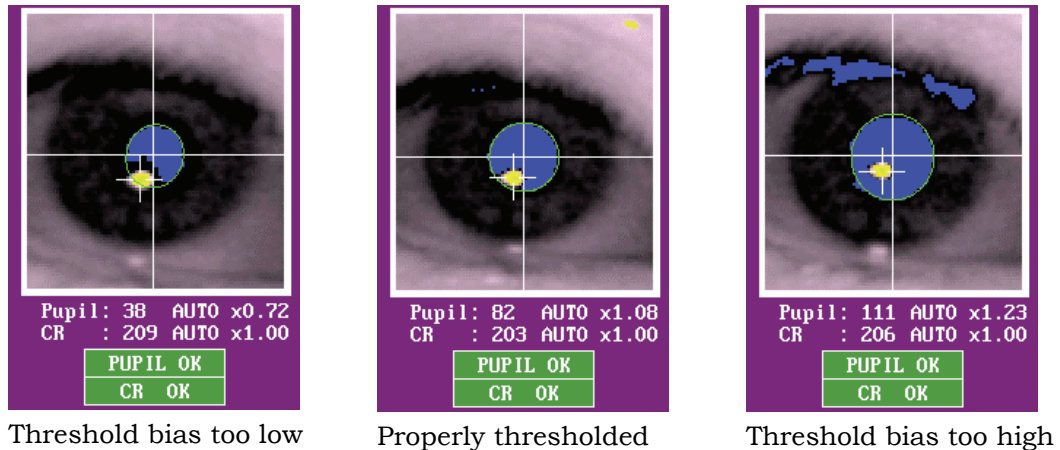

Figure 3-10. Pupil and CR Thresholds and Bias Values
- 14) In the zoomed camera image, the threshold values for pupil and corneal reflection are displayed under the camera image. Unlike other versions of the EyeLink 1000 eye tracker, these threshold values are automatically updated. The number beside the pupil threshold value is pupil bias – the extent to which the pupil threshold is modulated (see Figure 3-10). The user may adjust the bias using the pupil threshold adjustment buttons or with the UP and DOWN keys. Raising the bias increases pupil coverage (i.e., increasing the blue area) while lowering the bias decreases the pupil coverage (i.e., decreasing the blue area). Heuristically, pupil biases should be in the range of 0.9 to 1.1. A value around 1.05 is recommended, though this will vary depending on the eye.